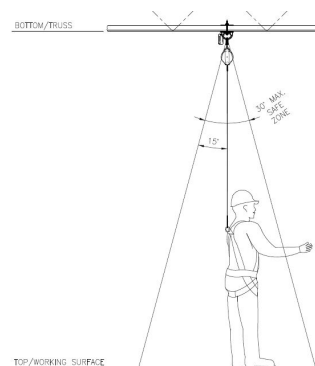

Figure 3 - Safe Work Area
- Swing Falls – A swing fall occurs when the anchor point is not directly above where a fall occurs. Minimize this hazard by working with the anchor overhead as much as possible. The suggested safe work area is within a 30° downward facing cone from an overhead anchor point to harness D-Ring (See Figure 3). The extra force of striking an object in a swing fall may cause serious injury or death and should therefore be avoided whenever possible. The required clearance significantly increases when a variable length subsystem such as a web lanyard is used.